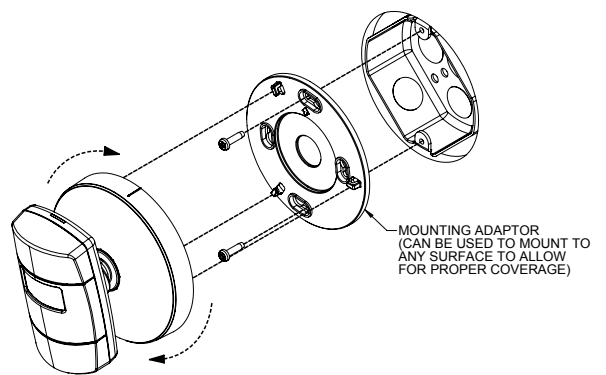

Figure 5
**Option 2** - Mount to a 4" octagon box (see Figure 5)